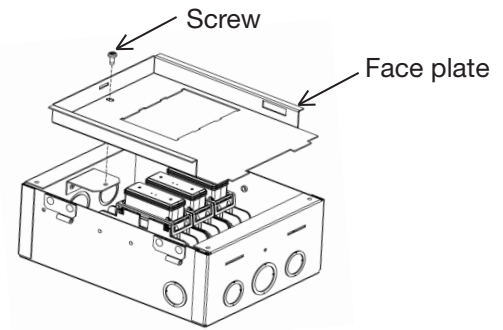

Figure 4
4) Remove face plate and screw from SPD unit. Face plate and screw will be re-secured to SPD housing after wire connections are complete. (Fig. 4)